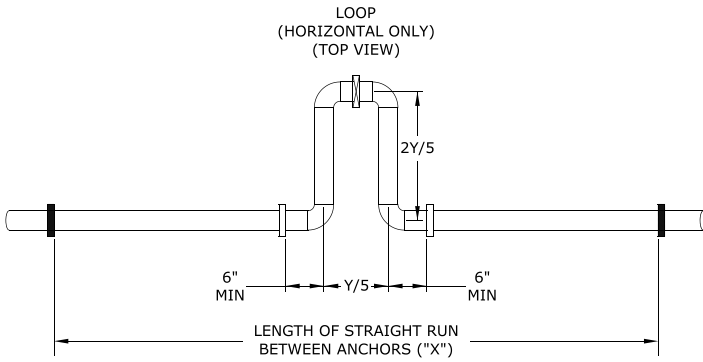
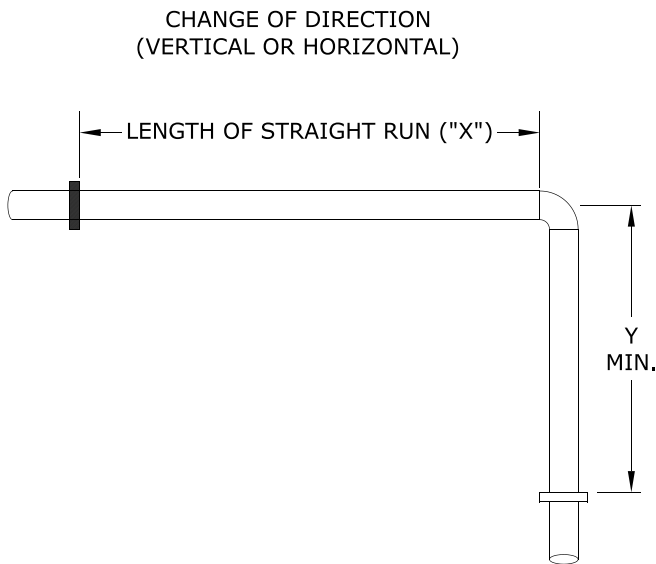

Figure 7.3a
Figure 7.3c
- For CPVC/PVC pipe design, the vent system shall allow 3/8" of thermal expansion for every 10ft of CPVC/ PVC pipe. The boiler will always act as an anchor to one end of the vent system. If at all possible, select and install hangers and wall thimbles so that the vent system can expand towards the terminal. When a straight run of pipe exceeds 20ft and must be restrained at both ends, an offset or expansion loop must be provided (Figures 7.3a, 7.3b). When a straight horizontal run of pipe exceeds 20ft and is restrained at one end with an elbow at the other, avoid putting a hanger or guide less than "Y" inches from the elbow in the adjoining straight section (Figure 7.3c). Thermal expansion fittings are not permitted.